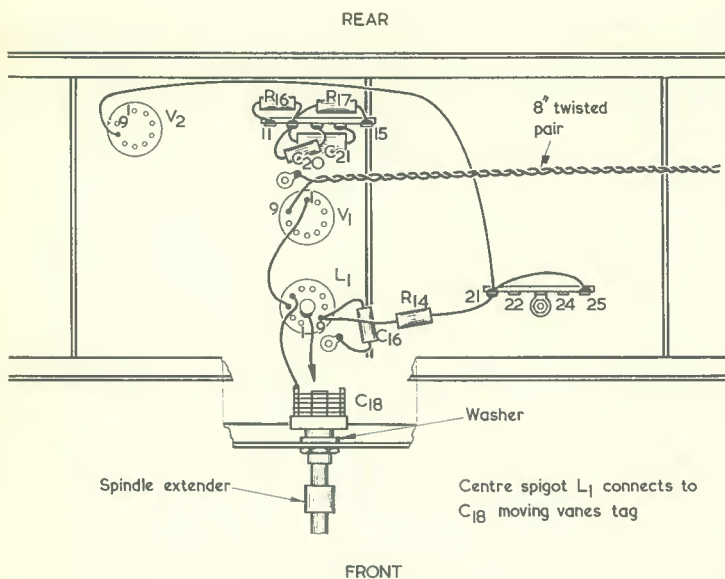

Fig. 1. In this diagram the modification to the reaction circuit is completed and the r.f. stage wiring commenced
The next wiring steps should be carried out whilst referring to Fig. 1. The chassis should be stood vertically on the Side Plate at the output transformer end with the chassis underside towards the reader. Up to Step 16, all connections are soldered when made.
18. Solder a length of insulated wire to pin 8 of V_2 , run it along the route shown in Fig. 1, and connect its other end to tag 21.
20. Take up C_{18} , fully enmesh its vanes, and solder a 1in length of bare tinned copper wire to its moving vane tag, the wire projecting backwards. Fit C_{18} to the U-slot in the front Chassis Rail which was previously occupied by the reaction potentiometer, R_1 . It will be necessary to fit a $\frac{3}{16}$ in washer at the rear of the U-slot, as shown in Fig. 1, to enable the capacitor to be firmly mounted. In Fig. 1 the
15. Using a 6BA nut and bolt, mount a new 5-way tagstrip to the underside of the Chassis Plate No. 1 on which the tuning capacitor is mounted. This is the tagstrip shown in Fig. 1 with tags 21 to 25. It should be mounted centrally in the fourth row of holes from the front.
The circuit, which is shown in Fig. 1, consists of three multivibrators. Two of these produce the required audio tones and the third controls the ratio of the times that each tone is active during the complete two-tone cycle. TR_1 , TR_2 and TR_3 form the two-tone generators and TR_4 and TR_5 the control multivibrator. The potentials at the collectors of TR_4 and TR_5 alternate between zero and the supply voltage at a rate determined mainly by R_8C_6 and R_9C_5 . When TR_4 collector is at the supply potential, base current for TR_1 is provided via R_2 . TR_1 and TR_2 then form a multivibrator running at approximately 150 c/s.